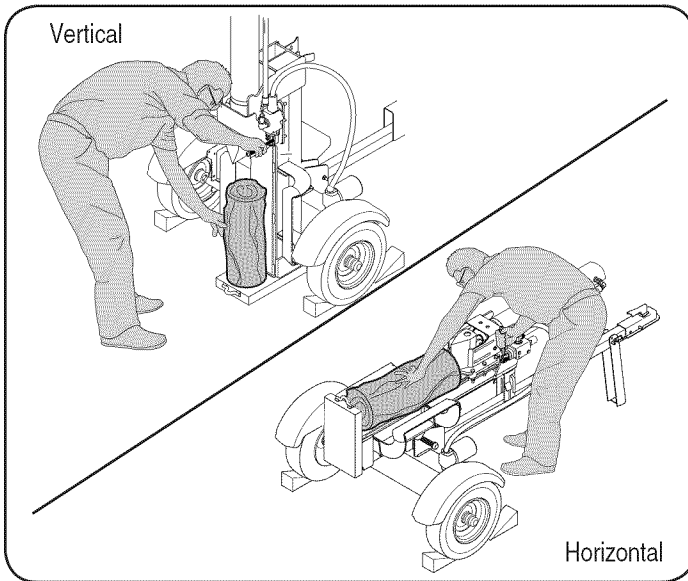

Figure 1
6. Always operate this machine from the operator zone(s) specified in the manual. See Figure 1.
- Horizontal Operating Position: Stand on the control lever side of the log splitter and stabilize log as shown, if needed. See Figure 1.